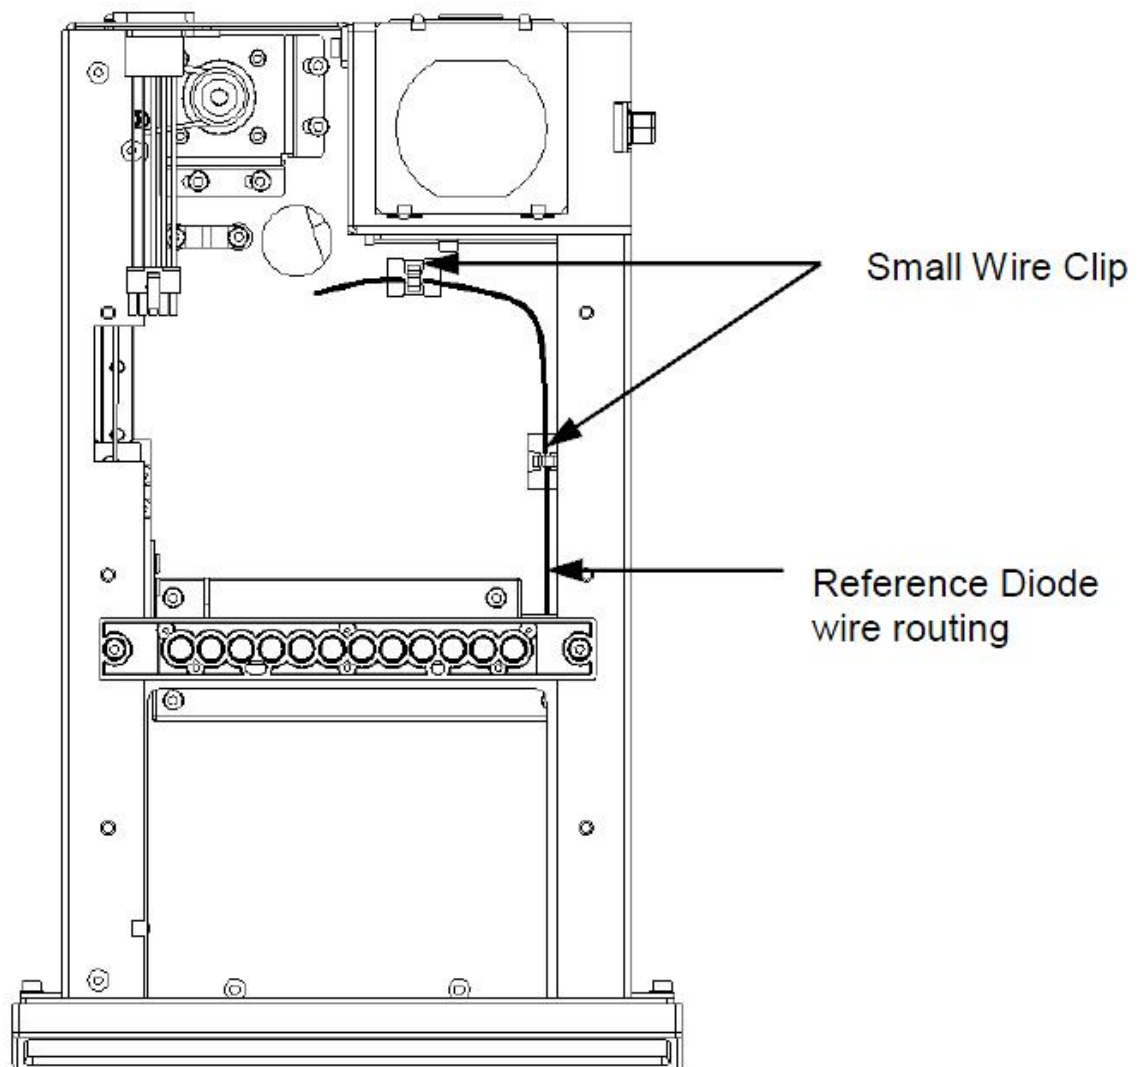

Figure N-10: Removing the Upper Optics Block
2. Remove the Upper Optics assembly by unscrewing the two M3x10 Socket Cap Head Screws and disconnecting the Reference Diode wire (Figure N-10).